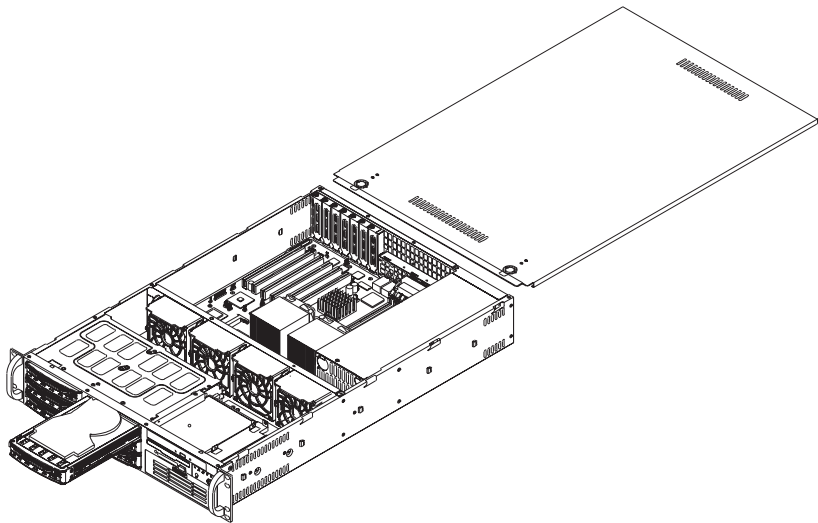

Figure 2-5. Accessing the Inside of the SuperServer 6022P-6 (with one SCSI Drive removed)
1. Accessing the inside of the 6022P-6 (see Figure 2-5):